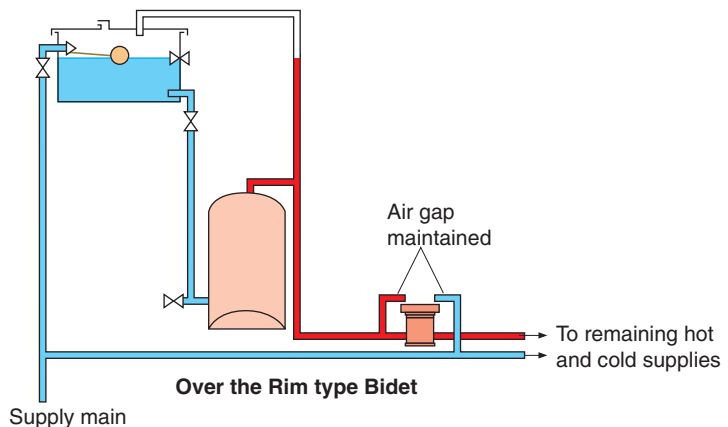

Figure 6.22 Over the rim fitment and installation requirements
- Over the rim fitments, as shown in Figure 6.22
Bidets with over the rim supply fitments are popular because they are easier to install and do not require the same amount of pipework and fittings. Figure 6.22 shows a typical pipework arrangement for the over the rim fitment.